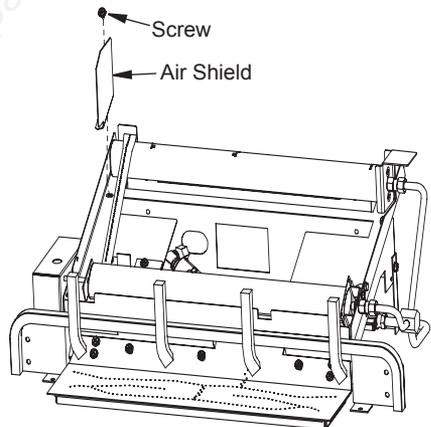

Figure 38 - Removing Air Shield
- Before placing any logs on the chassis you will need to remove the Air Shield located on the left side near the rear burner as shown in Figure 38. The Air Shield is held in place with one screw, remove the Air Shield and place the screw back into the hole in the chassis. Place the Air Shield with you owner's manual and keep.